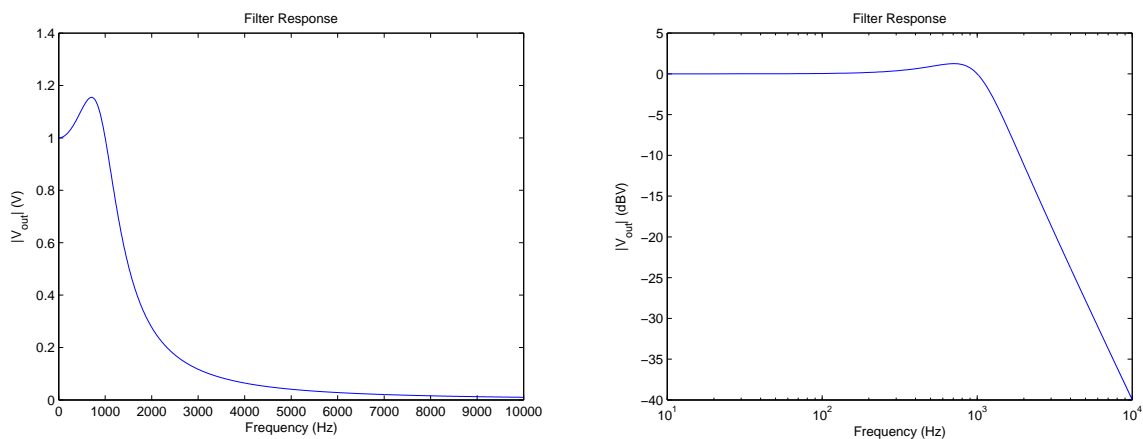

Figure 3: Passive Low-Pass Filter Response
3. Compare your results with Figure 3.